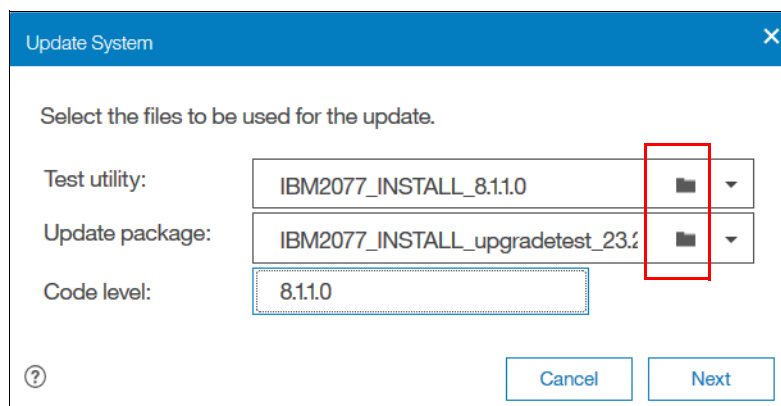

Figure 12-32 File selection
2. Select the test utility and update package files by clicking the folder icons, as shown in Figure 12-32. The code levels are entered automatically.